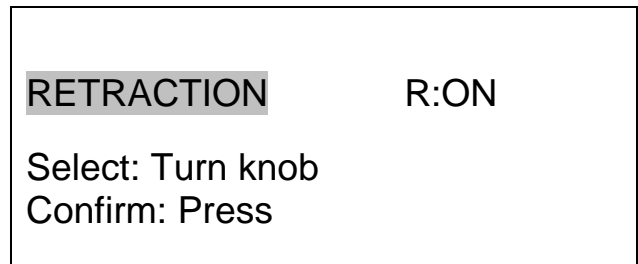

fig. 40
- Turn the knob to select the desired function: R:ON or R:OFF (fig. 40).